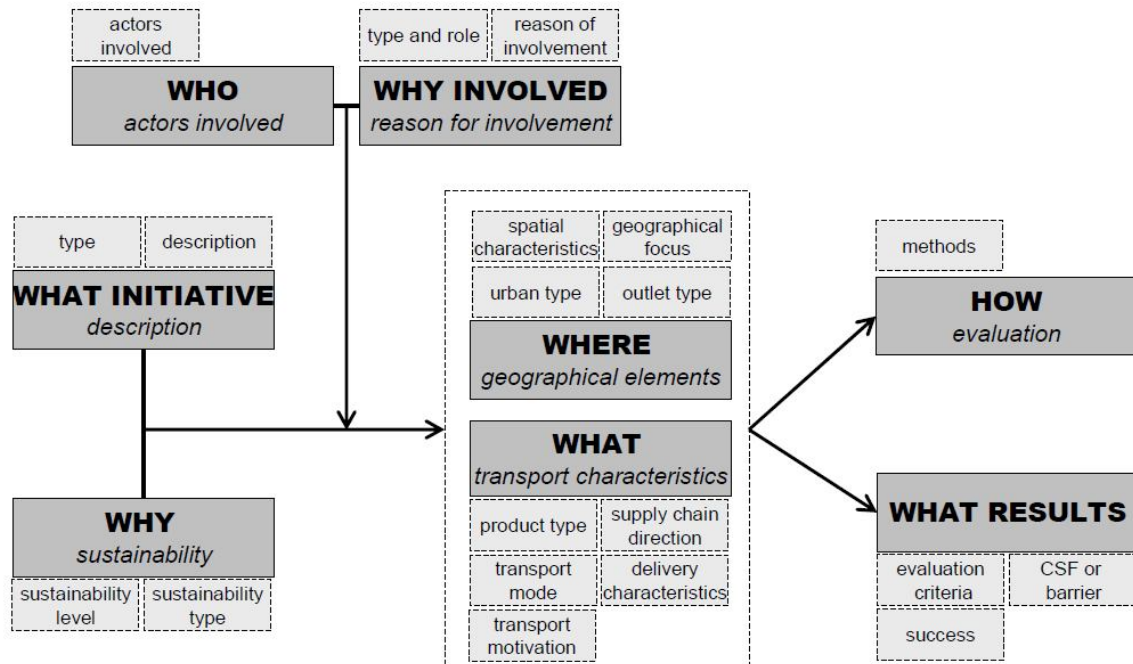

Figure 7.1 – Framework for evaluating UFTS initiatives (measures)
The researcher Hans Quak distinguish three areas in which dimensions could affect the results of an initiative of UFT: the design phase, the execution phase, and the evaluation phase, Fig. 7.1.
1. You have to offer, define and analyze measures (initiatives) that can be implemented in your city concerning freight transportation and public transportation, study area (according to exercise 2 and 3). The base for analysis is Fig. 7.1–7.2. Please, provide detailed description and evaluation of each option in the tables 7.1–7.2.